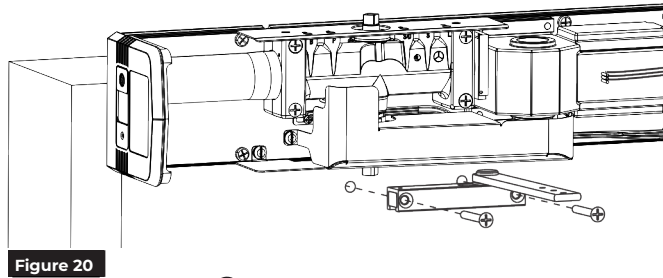

Figure 20
1. Using previously prepared holes in doors, install two (2) 1/4-20 x 1-5/8" screws through each shoe and into sex bolts. (Figure 20)